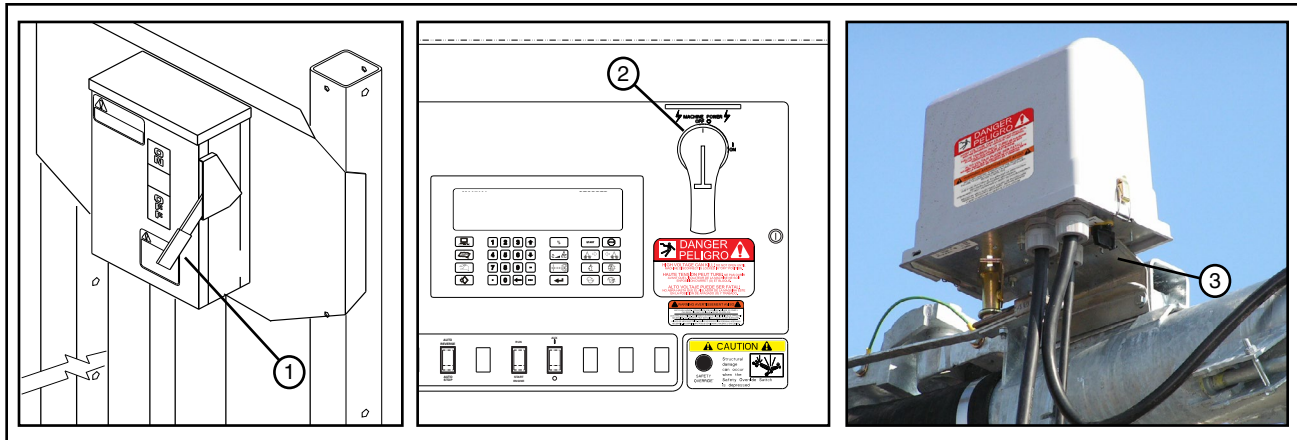

Figure 30-1 1. Main Service Disconnect Switch
- Main Service Disconnect Switch from public power to the control panel. See figure 30-1.
- Control Panel Main Disconnect Switch. See figure 30-1.
- Any Tower Box Disconnect Switch. See figure 30-1.